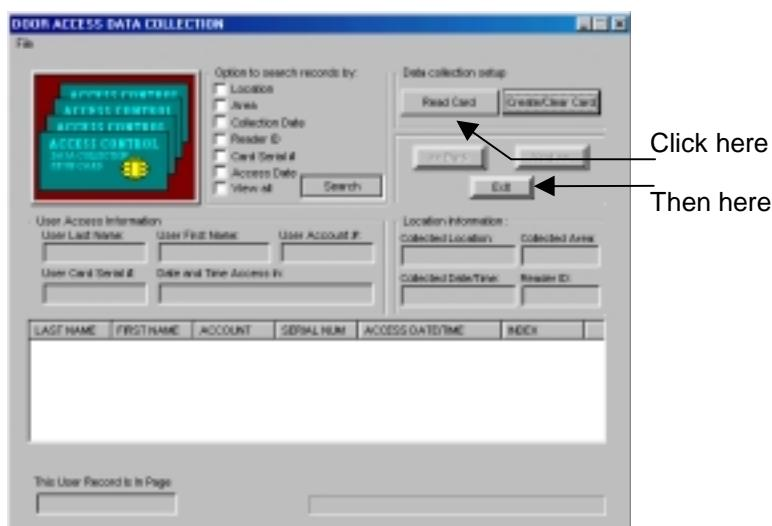

Figure 11.60 Reading the Door Access Data Collection Card
3. In the Door Access Data Collection window click the Read Card button (Figure 11.60).
4. Click the Exit button when completed (Figure 11.60).